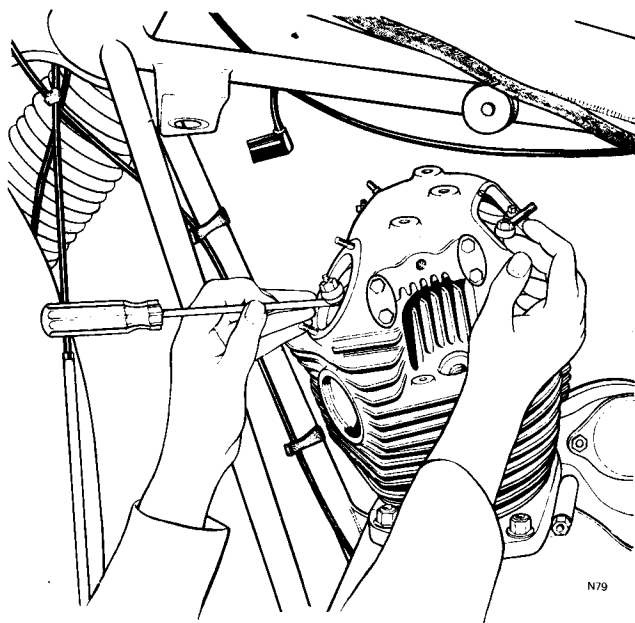

Fig. C8 Guiding pushrods into engagement with the rockers
- 6 Starting with the pair of pushrods which are slightly higher, engage the tops of the pushrods to the rocker ball ends as the cylinder head is lowered. Use an implement such as a thin screwdriver through the exhaust rocker box to guide the pushrods into position as shown in *Fig. C8*. Having engaged the first pair of pushrods engage the second pair in a similar manner.